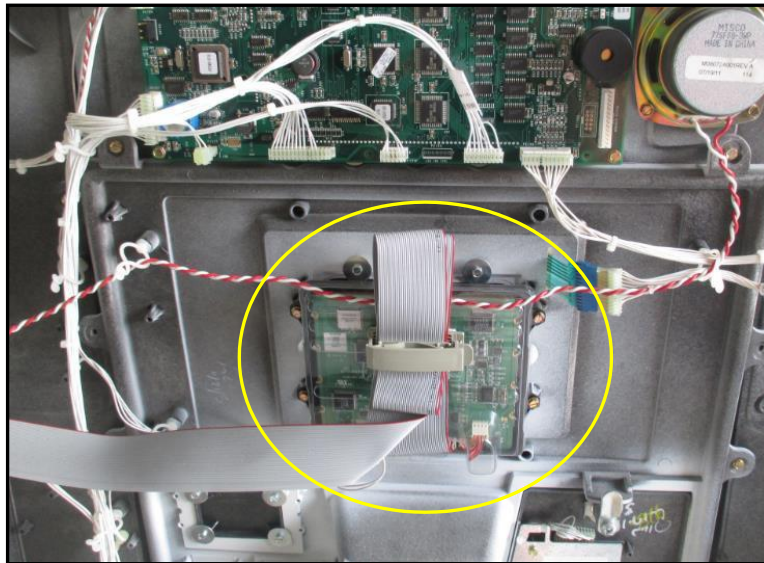

Fig 1.4 – Location of Monochrome Display
6. Unfasten the cable clips holding the Monochrome Display assembly cables, and unplug the cables. (Fig 1.4)